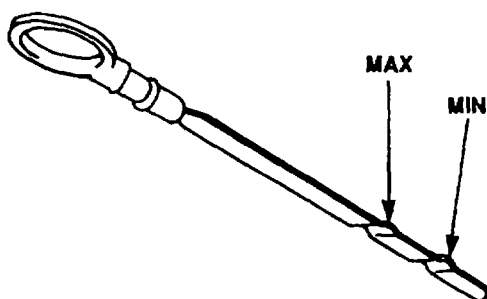
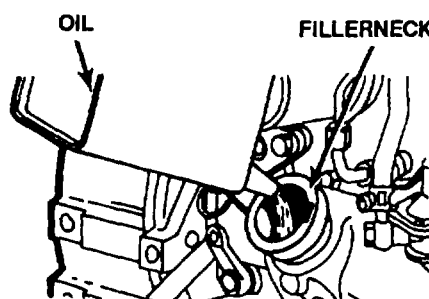

Figure 3-2. Oil Dipstick
Figure 3-3. Filler Neck
- e. The oil level should be between the marks on the dipstick (figure 3-2). If the level is only up to or even below the lower mark, immediately top off with oil (fill through filler neck, figure 3-3), preferably up to the upper mark, in order to prevent serious damage to the engine.